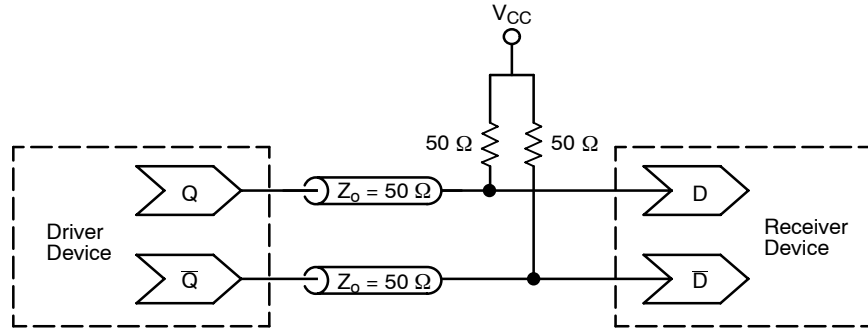

Figure 14. Typical Termination for Output Driver and Device Evaluation
- CML outputs require 50 Ω receiver termination resistors to V_{CC} for proper operation. See Figure 14.